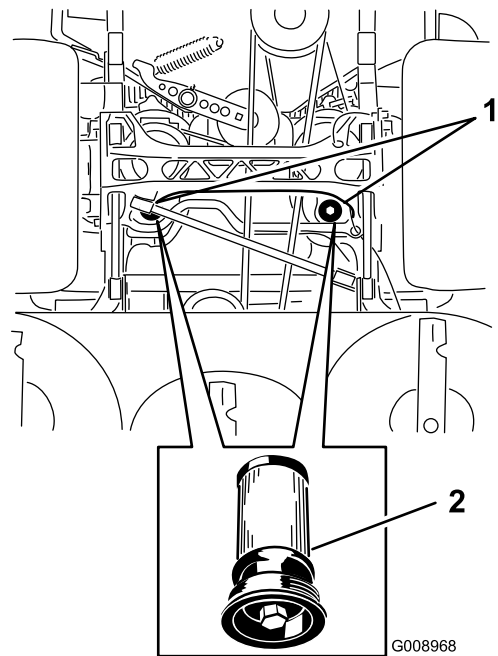

Figure 90
5. Place a drain pan under the filter, remove the old filter and wipe the surface clean (Figure 90).
6. Apply a thin coat of hydraulic oil to the rubber gasket on the replacement filter (Figure 90).